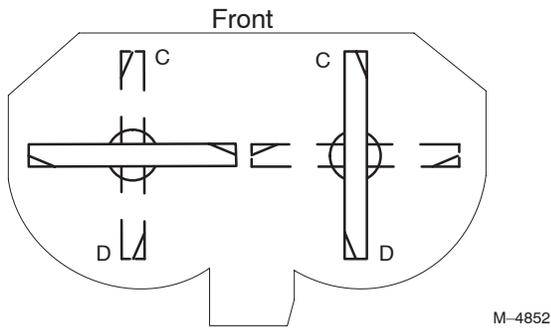
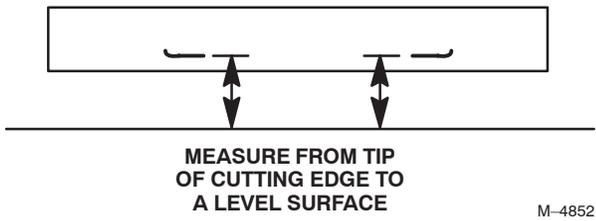

Figure 51
Figure 52
2. Position one blade front-to-rear (Fig. 51). Measure at **C** and **D** locations (Fig. 51) from a level surface to the cutting edge of the blade tips (Fig. 52).